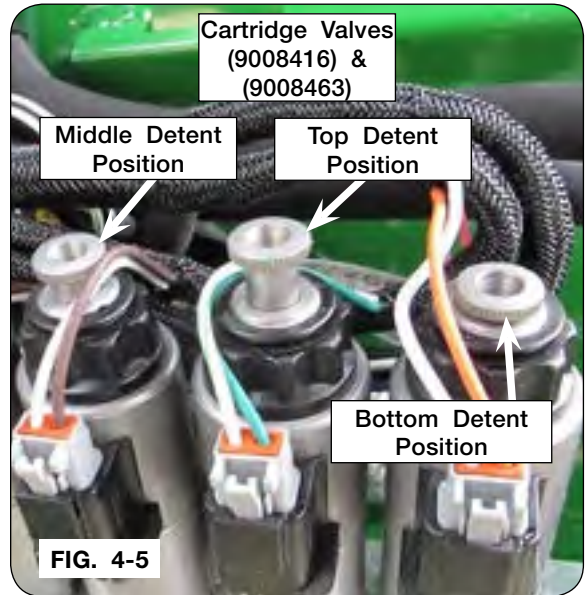

FIG. 4-5
**NOTE:** Only one cartridge valve (9008416 & 9008463) must be in the top or bottom detent position at a time to function properly. All other valves must be in the middle detent position. (FIG. 4-5 & 4-6)
5. Operate the desired function on valve (9008416 & 9008463) by rotating the manual override knurled knob from the locked neutral position. (FIG. 4-5, 4-6, & 4-8)
8. Return knurled knob to center and lock valve (9008416) & (9008463) in position. (FIG 4-5, 4-6 & 4-8)